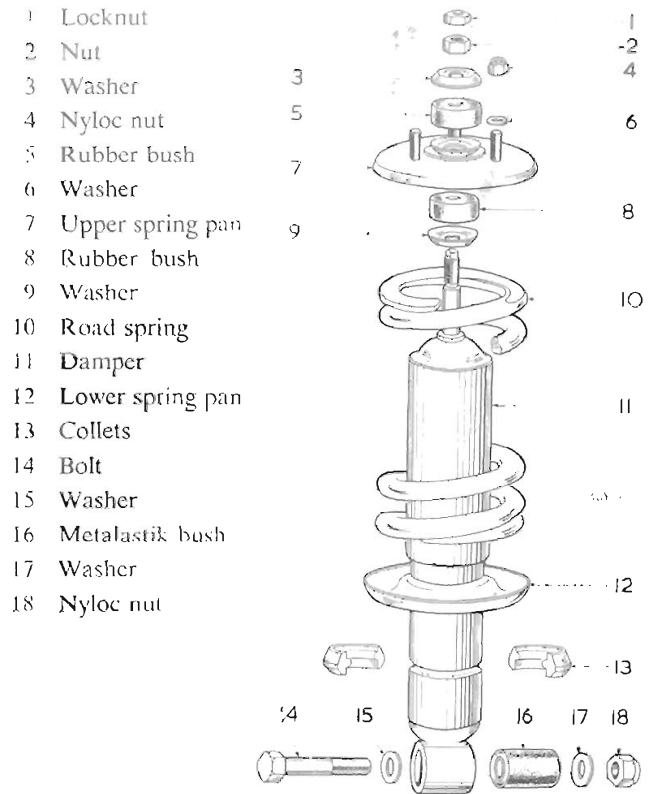

Fig. 28. Exploded view of front road spring and damper assembly
### Front Road Spring Assembly (Fig. 28)
**Dampers (Fig. 28)**